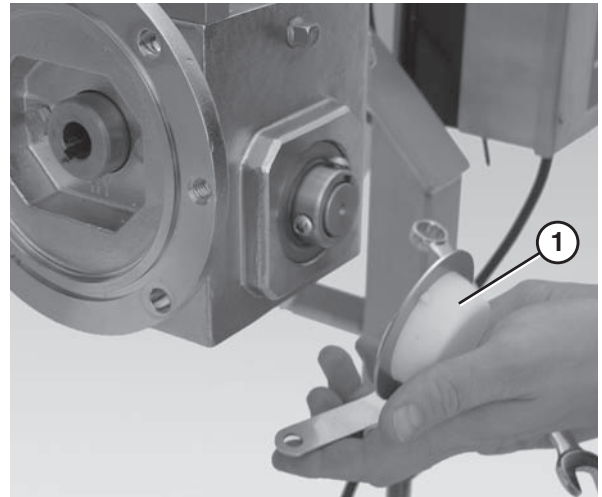

Figure 62
8. Remove the drive spindle cover (Figure 62, item 1).